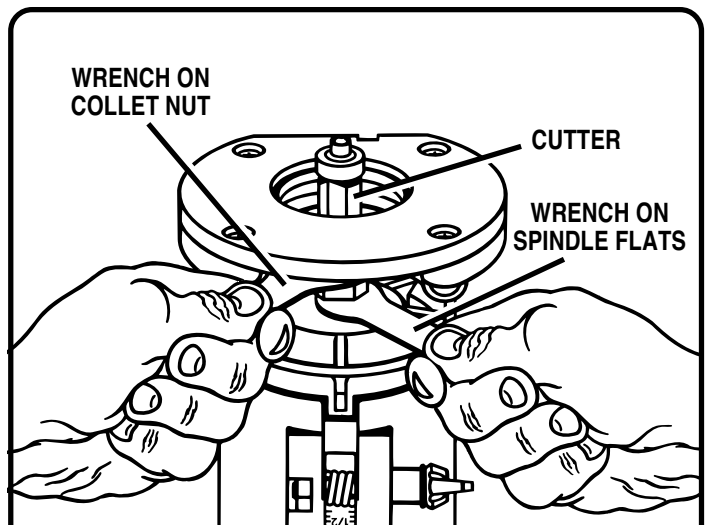

Fig. 3
See Figure 3.
4. Place the large end of the other wrench provided onto the collet nut. Rotate wrench counterclockwise to loosen collet nut. See Figure 3.
8. Tighten the collet nut securely by turning clockwise with the wrench provided. See Figure 3.